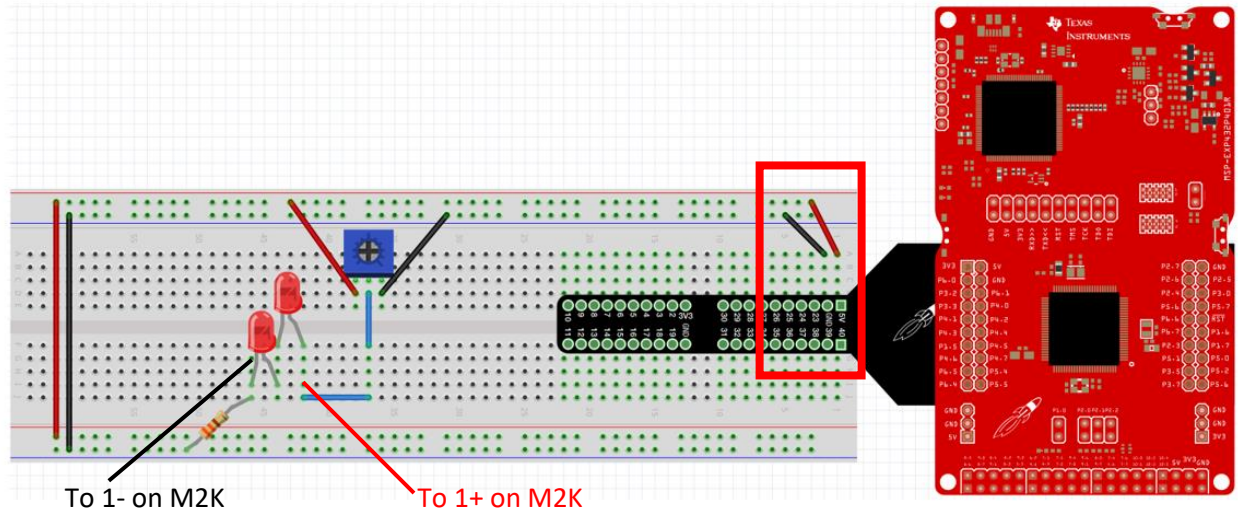

Fig. 15. Diagram for LEDs connected in series. Note the change from a supply of 3.3V to 5V
7. Instead of connecting them in parallel connect them in *series*. Note: for this question, change over from the 3.3 V supply to the 5 V supply, as highlighted in the red box in figure 15, and be careful not to turn the potentiometer knob too high as it can cause damage to the circuit. Now what changes do you notice in either intensity or turn on voltage? Again, explain why.